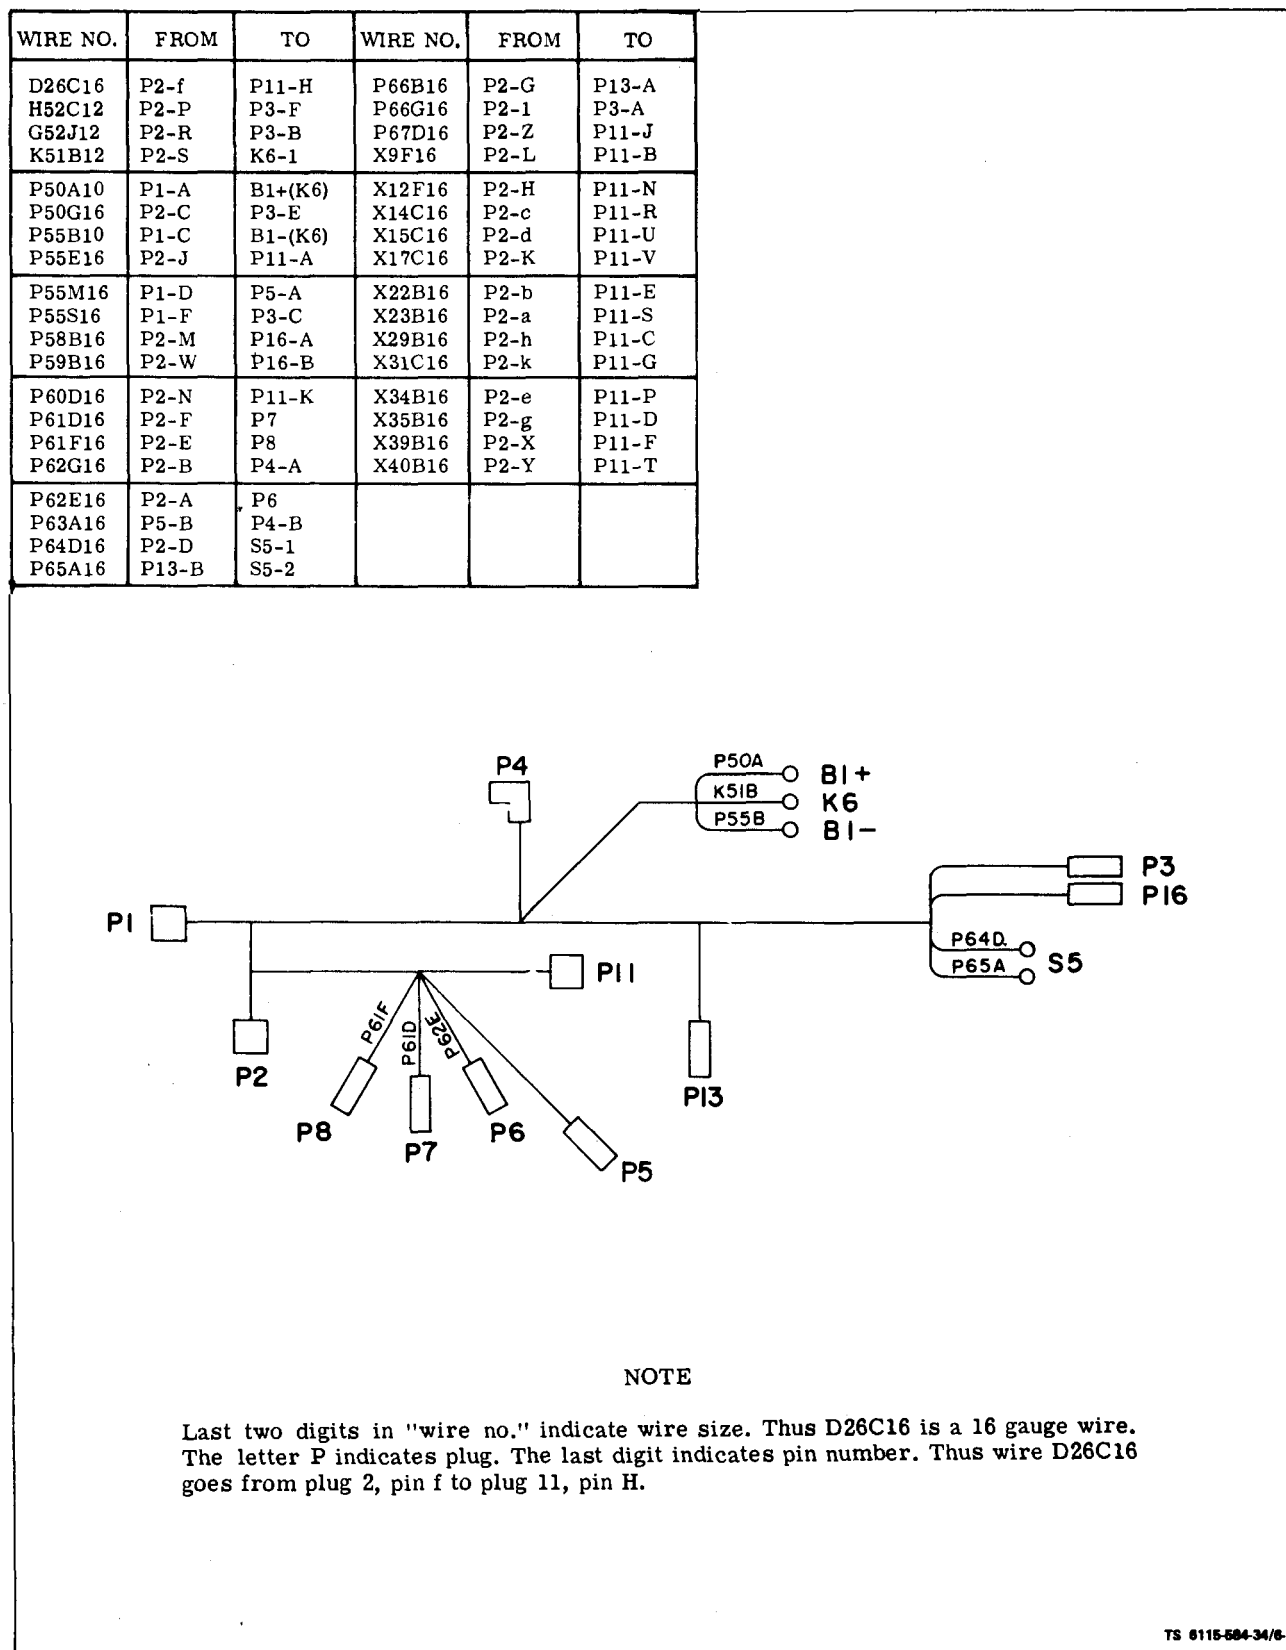

Figure 6-2. Generator Set Wiring Harness
a. Remove (see figure 6-2). Refer to figure 6-2 and remove wiring harness at terminal boards and connectors. On ASK equipped generators, refer to Operator and Organizational Maintenance Manual and remove cover assembly.
c. Install (see figure 6-2). Refer to figure 6-2 and install wiring harness at terminal boards and connectors. On ASK equipped generators, refer to the Operator and Organizational Maintenance Manual and install cover assembly.